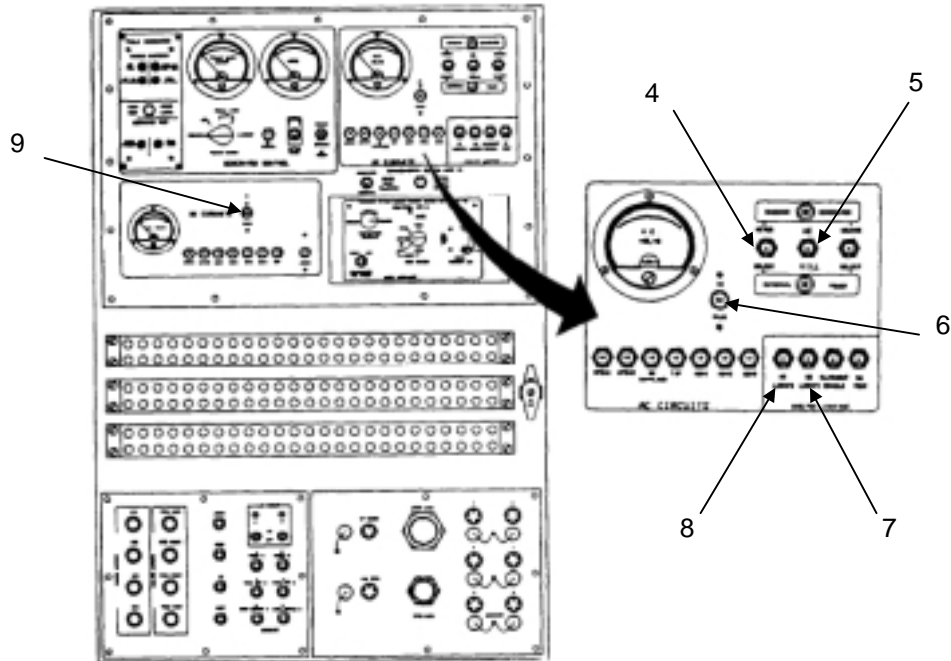

Figure 2-8. AC Circuits Panel
- d) Move to the Power Monitor Assembly (see Figure 2-8, next page) inside the shelter and push in the 200 Amp DC MAIN circuit breaker (9) on the DC CIRCUITS panel. Push in the other DC CBs according to your SOP (e.g., some units use only one UPS, so UPS 2 would not be pushed in).
- e) Turn on the DC LIGHTS switch (7) at the AC CIRCUITS panel.
- f) The EXTERNAL POWER indicator lamp on the AC CIRCUITS panel should already be illuminated. Flip down the METER SELECT switch (4) on the AC CIRCUITS panel to EXTERNAL POWER. Look at the AC Volts meter on the AC CIRCUITS panel to ensure the voltage is at 115 Vac. Follow troubleshooting procedures if power is not correct.
- g) Set the AC KILL switch (5) to AC.
- h) Push in the 60 Amp AC MAIN circuit breaker (6).
- i) Turn on the AC LIGHTS (8) at the AC CIRCUITS panel.